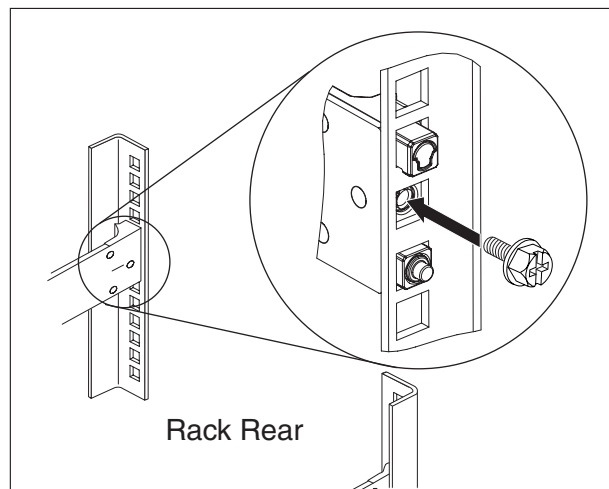

Figure 12. Securing the appliance on slide rails in the rack
4. Secure the appliance slide rails in the rack, as shown in Figure 12: